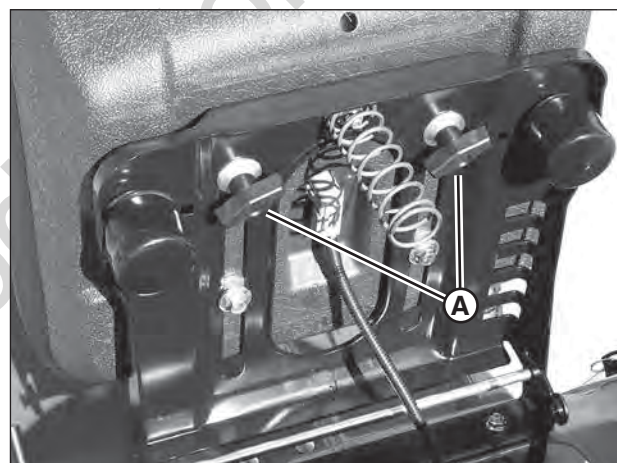

Figure 3: Operator seat adjustment
2. Loosen the two adjusting knobs (A, Figure 3) and move the seat to the desired position. After adjustment, tighten the knobs securely.